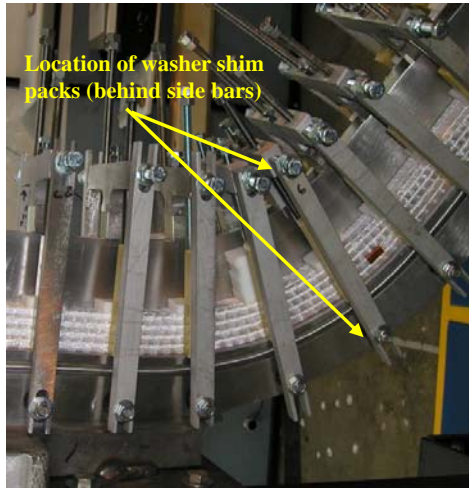

Figure 7-Location of Side Bar Shims
6.9.3 The winding team shall install the correct shim washers on the weld studs between the casting and the side bar nuts. [See Figure 7-Location of Side Bar Shims